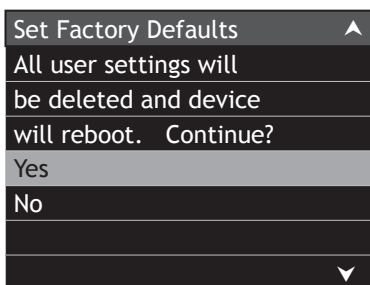

Figure 93
4. Using the ▲(Up) Push-button highlight “Yes” and press the SELECT Push-button. Refer to figure 93.